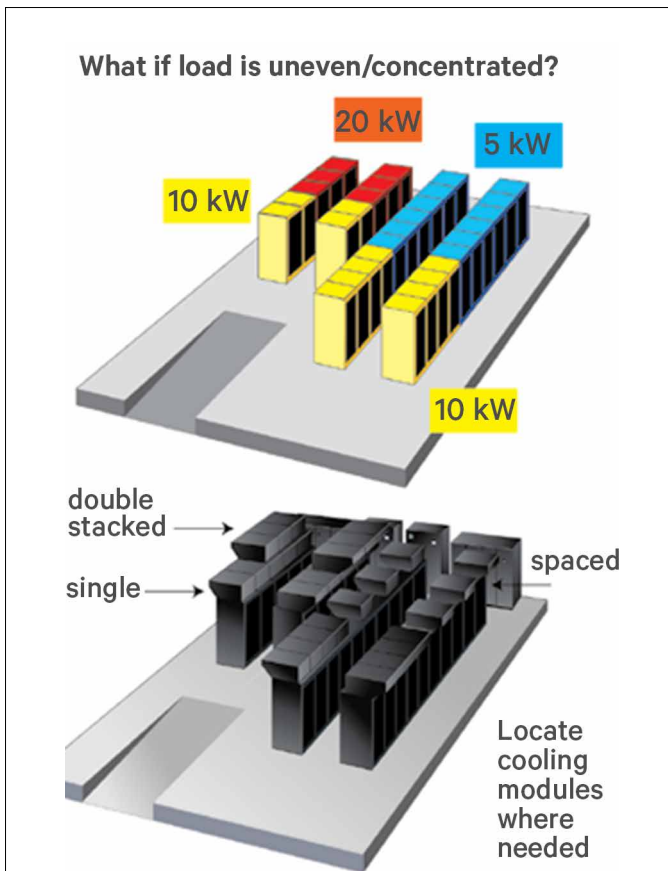

Figure 14: Adapting to uneven load.
2. What if the load is uneven? Figure 14 shows the original 10 kW per rack on the yellow racks only, with quite a few 5 kW heat load racks in blue, and one area having 20 kW heat load racks shown in red. Uneven load is not a problem with the Liebert XD. Spread out the Liebert XDV where the load is light, and double stack them where the load is heavy. Problem solved.